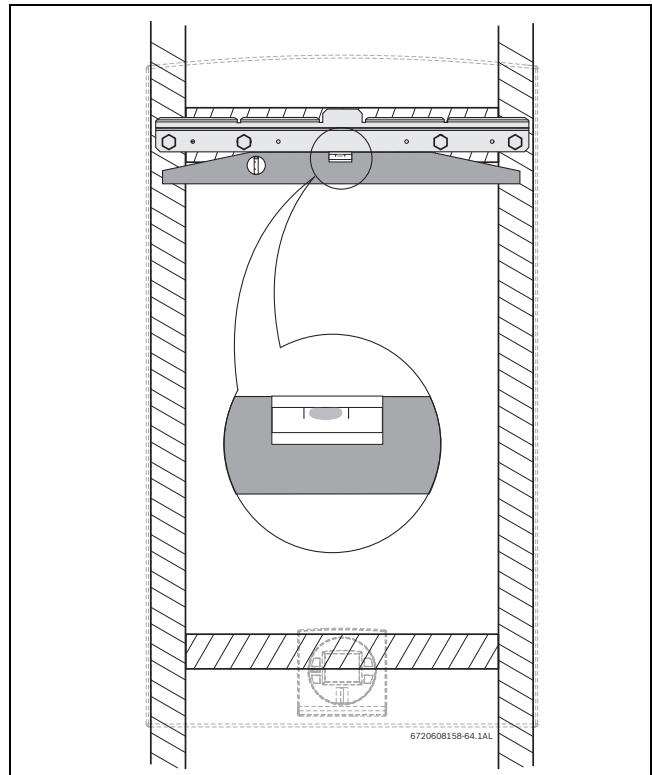

Fig. 27 Leveling wall mounting bracket
- ▶ Secure the wall mounting bracket provided with the heater to a wall surface. The heater must be kept level on the wall surface, see fig. 27, page 24.